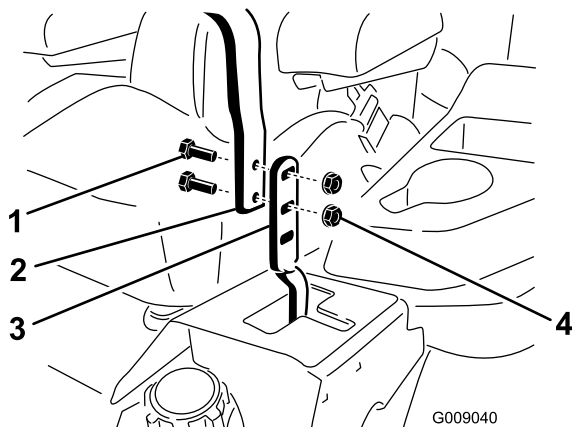

Figure 65
3. Loosen the bolts and flange nuts installed in the levers (Figure 65).